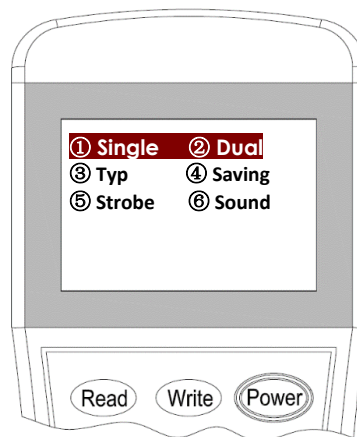

Figure 10
3. Input the **“1”** for **Single** Address mode or **“2”** for Dual Address mode then press **“Write”** to change the setting into the desire mode (Figure 10).